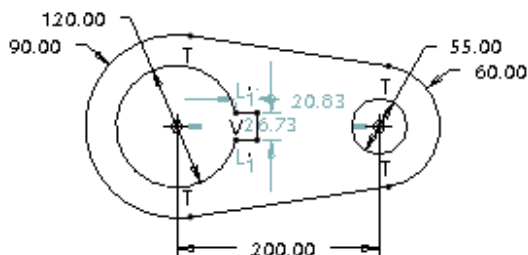

Figure 3-23 Sketch of the keyway with weak dimensions and constraints
- d. Draw the keyway and dimension it, refer to Figures 3-23 and 3-24.
2. Draw the keyway, as shown in Figure 3-23; the weak dimensions and constraints are automatically applied to the sketch of the keyway.